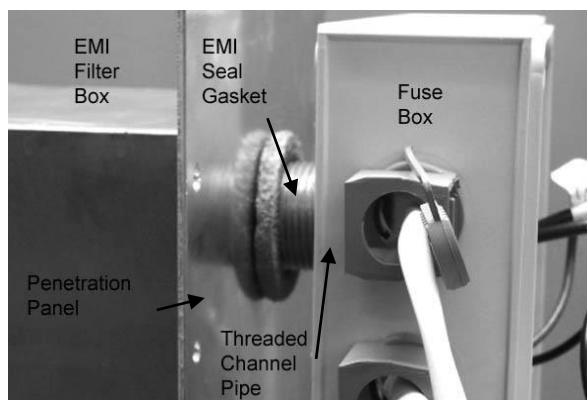

Figure 3: Penetration/Access Panel fitting from EMI Filter
A filter assembly designed to prevent EMI (Electromagnetic Interference) from getting inside the MRI room, and to provide the main 24V power feed for the MRI Safe LED Lighting system. (Customer Supplied) See Figure 3.
4. Install the EMI Gasket as seen in Figure 3.